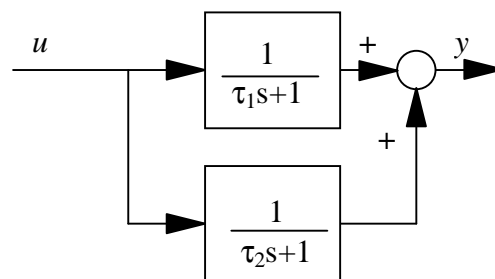

Figure 1.
1. For the process obtained as the equivalent transfer function from u to y given in Figure 1,